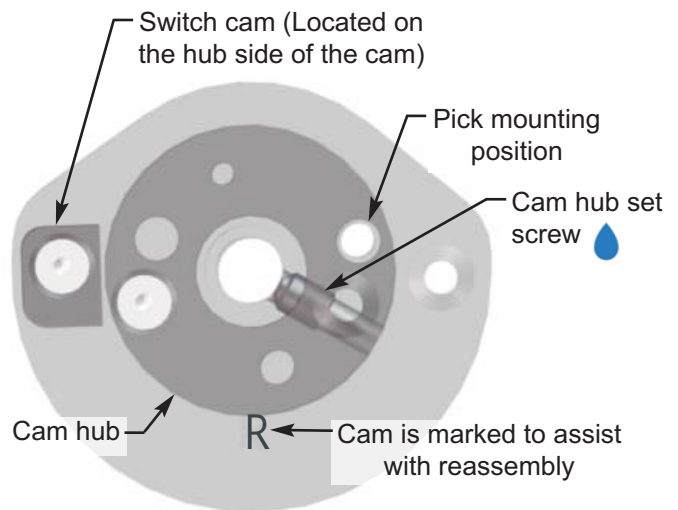
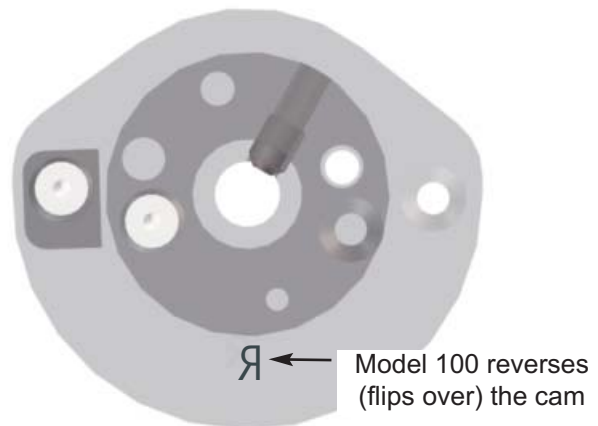
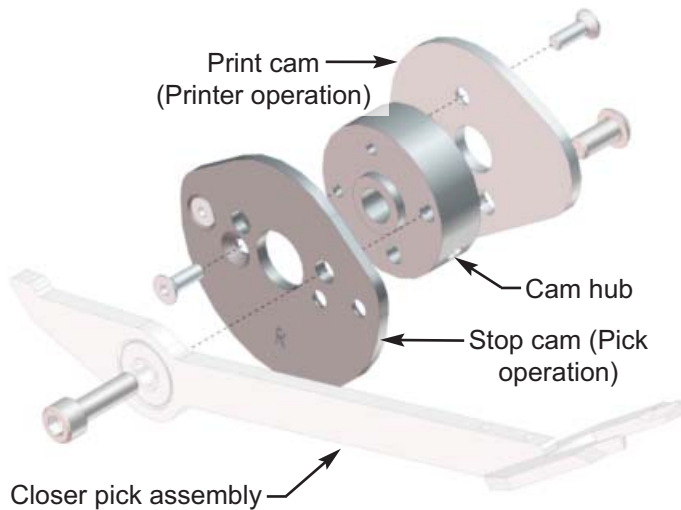

Figure 3.11
Figure 3.12
Figure 3.13
L. CAM ASSEMBLY: Figure 3.11 - 3.14
The printer version of the cam and hub assembly is shown in Figure 3.13. The standard position is identical to the printer version but without the print cam. The Model 100 operates with the Series RJ closure and is similar to the cam position described earlier but with the stop cam reversed (flipped over on the cam hub Figure 3.12).
Notice that the stop cam has an “R” stamped on one side (Figure 3.11)
4. Place the stop cam onto the larger shoulder side of the hub. The “R” side of the cam should be facing out for the Models listed as shown in Figure 3.11. For Model 100 the cam is flipped over so the “R” is facing the cam hub as shown in Figure 3.12. Rotate the stop cam until its countersunk hole aligns with the M4 threaded hole in the cam hub.